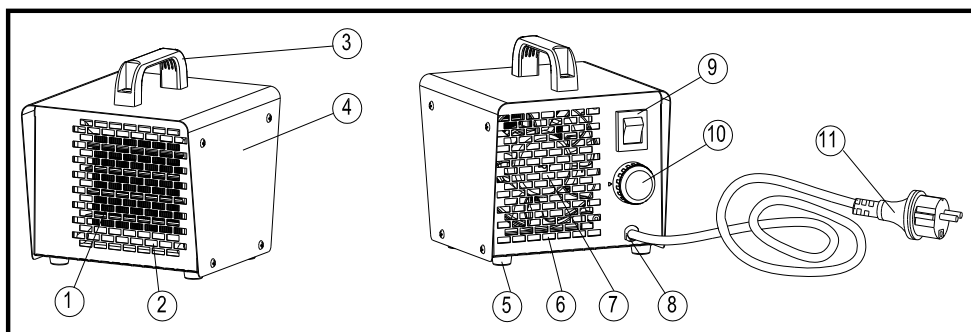

Fig. 1
► The device should be carried by a handle No. 3 in Fig. 1.
See Figs. 1.